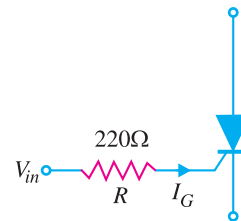

Fig. 20.6
**Example 20.4.** A 220Ω resistor is connected in series with the gate of an SCR as shown in Fig. 20.6. The gate current required to fire the SCR is 7mA. What is the input voltage ( $V_{in}$ ) required to fire the SCR ?